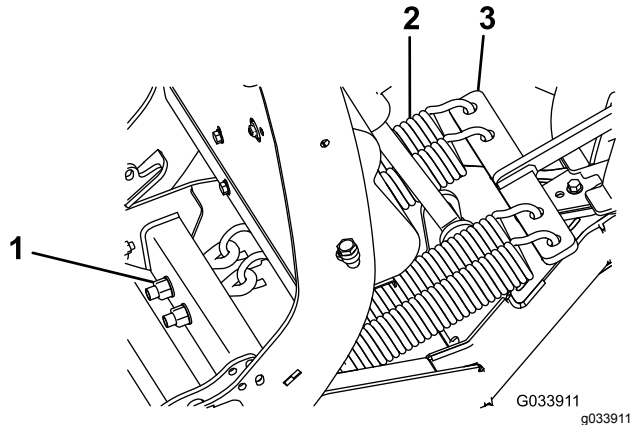

Figure 45
1. Loosen and carefully remove the 4 lock nuts and 4 washers from the trip-spring eye bolts (Figure 45).